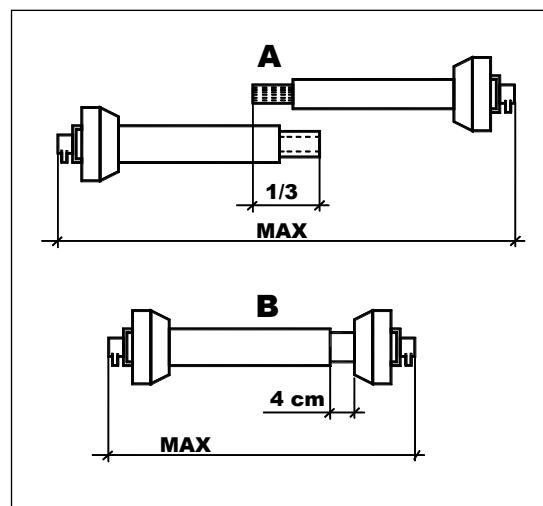

Fig. 9 – PTO shaft length
**When the PTO shaft is drawn out as far as it will go, whatever the working conditions, the telescopic tubes must overlap by at least 1/3 of their length (A Fig. 9).**
When it is inserted as far as it will go, the minimum clearance must be 4 cm (B Fig. 9). If this is not possible, contact the Manufacturer's Service Department.